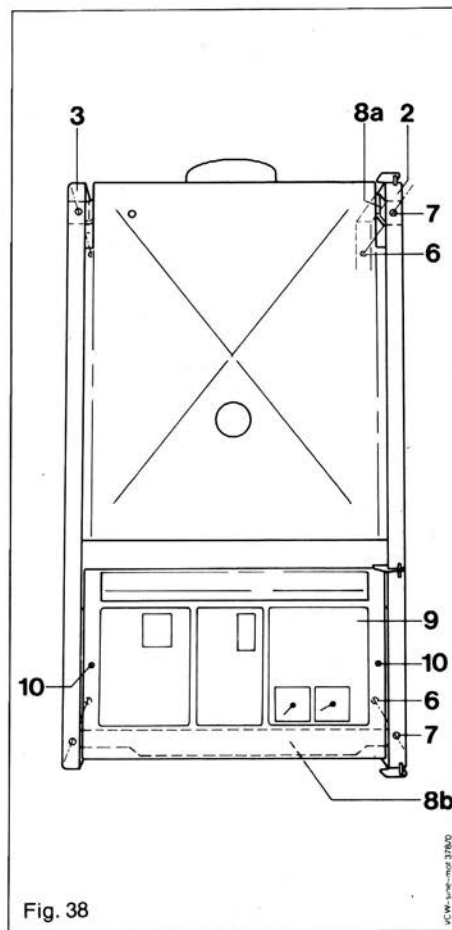

Fig. 38
12.2 Side panels (Fig. 38)
Remove screen plate by unscrewing the two fixing screws (10, Fig. 38).
Remove side panels by unscrewing top and bottom screws (7, Fig. 38) to clear internal clips and then pulling panels outwards and off.